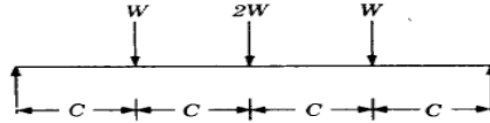

Figure 2
- (b) A simply supported beam is loaded as shown in the below Figure 2. What is the maximum shear force in the beam? [7M]